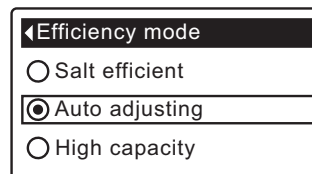

FIG. 76
- 8a. **Efficiency mode:** If the desired efficiency mode already has a black dot next to it (See Figure 76), go to Step 9. Otherwise, press the DOWN (▼) or UP (▲) buttons to scroll to the desired efficiency mode, then press SELECT (O) to choose it.